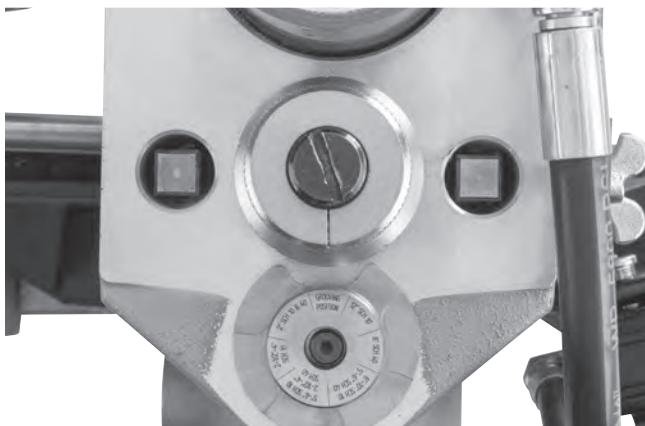

Figure 17B – Gauge in Grooving Position
4. Turn the adjusting nut clockwise until the head touches the step of the depth gauge. Turn the groove depth gauge to the grooving position (*Figure 17B*). If the gauge is not in the grooving position it will prevent grooving and may be damaged.
2. Make sure the groove depth gauge is in the grooving position. (*Figure 17B*)